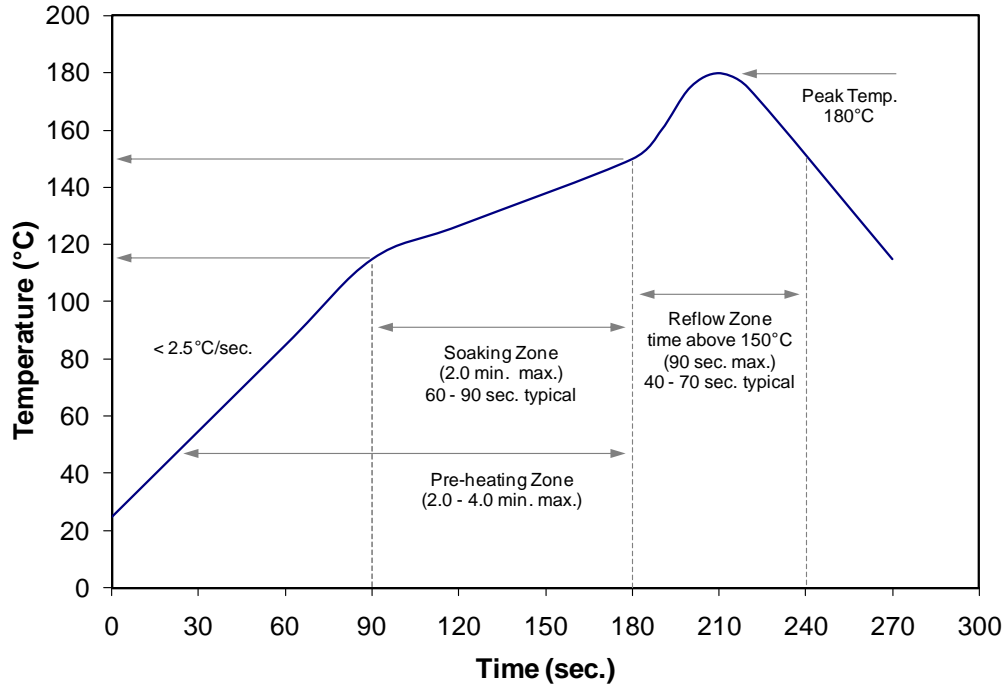

Figure 3: Reflow soldering profile for lead free soldering.
- Solder conditions per JEDEC 020D. See Reflow Soldering Profile Figure 3.
Notes for Figure 3: